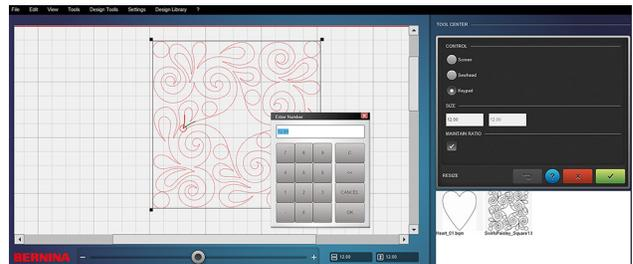

Fig. 25
2. Type a new height and/or width in the size boxes (Fig. 25). When Maintain Ratio is selected, only one number needs to be entered as the Q-matic will calculate the other one proportionally.